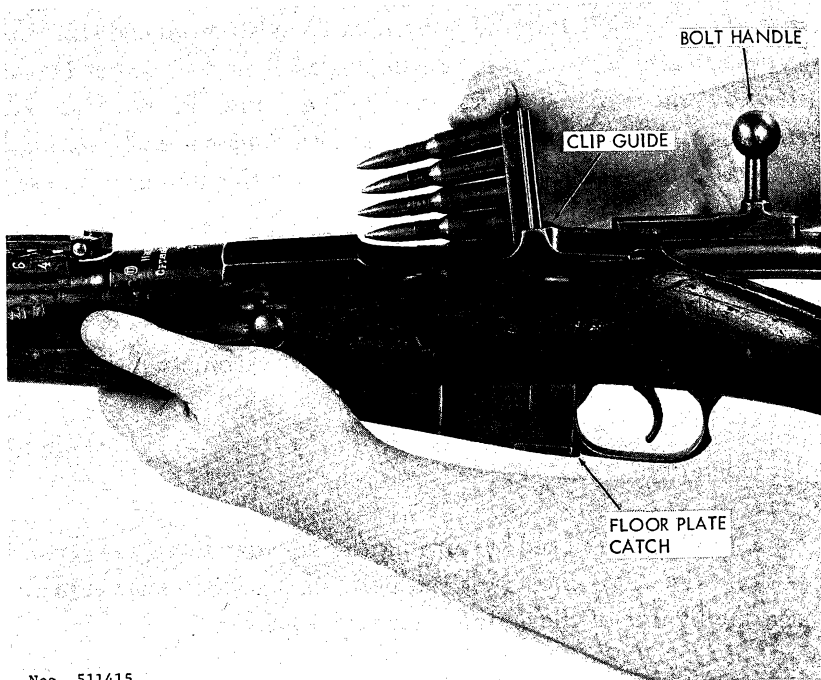

Figure 115. Loading the M1891 or M44 rifle.
a. Open the bolt by turning the bolt handle to the vertical position (fig 115); then pull the bolt fully to the rear. Load the magazine by one of the actions listed below:
(1) Insert a 5-round stripper clip into the clip guides in the receiver (fig 115) and press the cartridges from the clip into the magazine.
(2) Place individual cartridges in the receiver and press them down into the magazine until they are caught by the interrupter. Be sure that the rim of each cartridge, as it is loaded, is ahead of the rim of the preceding cartridge.
g. To unload or clear these weapons, open the bolt (a above) and release the floorplate catch (fig 115) by pressing it to the rear. The floorplate and the magazine platform will swing out of the magazine, along with any cartridges. Inspect to insure that no cartridges remain in the chamber or magazine, then swing the floorplate back into position, close the bolt, and press the trigger.
(1) Clear the weapon (para 131g).
(2) Open the bolt, press the trigger, and, while holding it, pull the bolt out of the rifle.
(3) Open the magazine by pressing the floorplate catch (fig 115) to the rear and swinging the floorplate down. Squeeze the magazine platform against the floorplate and pull the floorplate away from the magazine.
(4) No further disassembly is necessary or desirable.